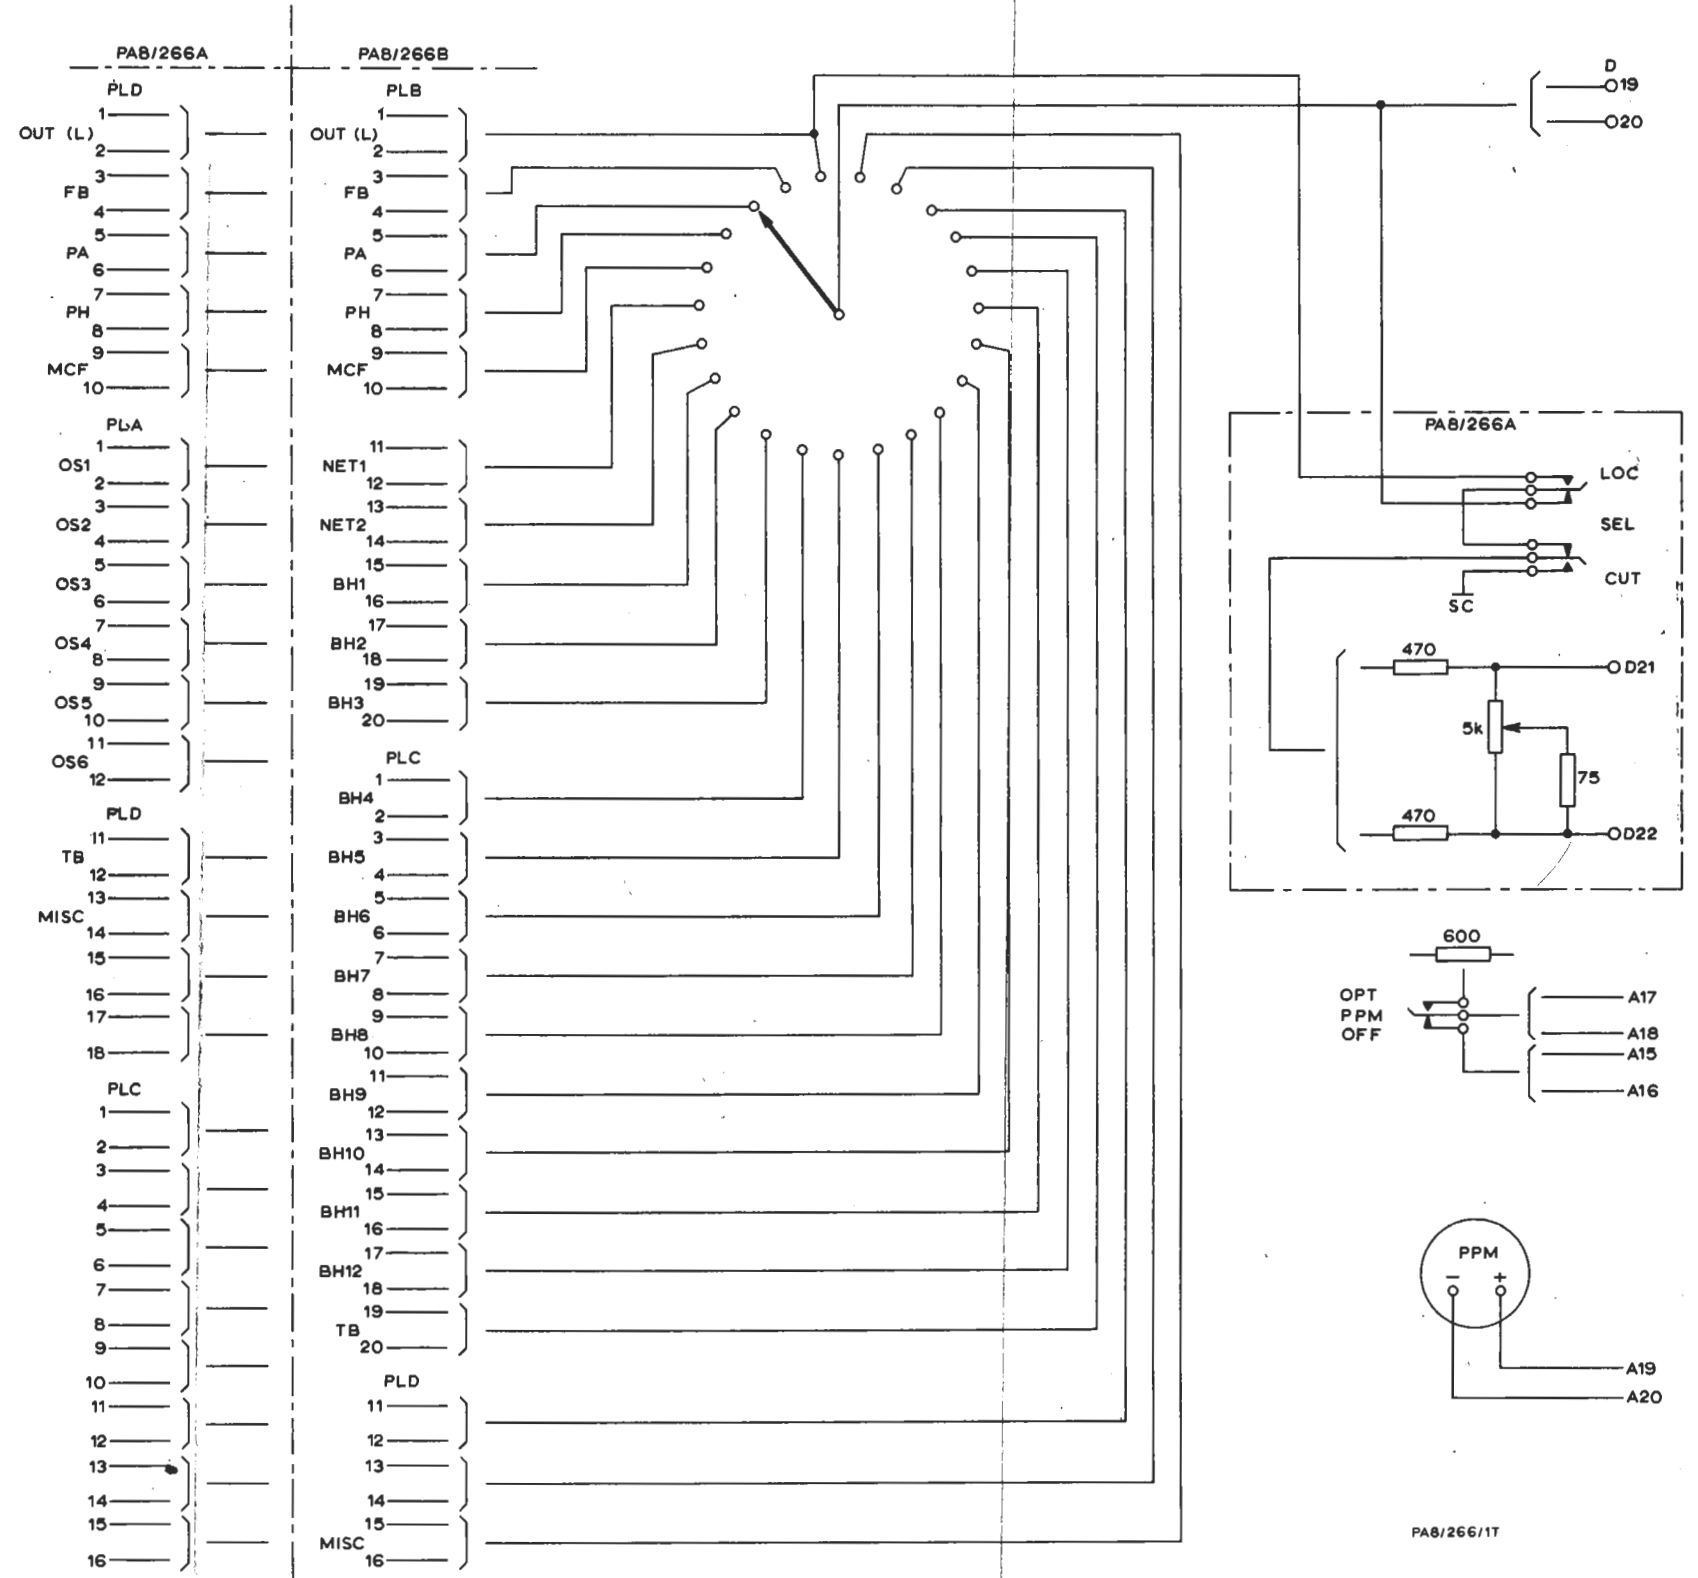

Fig.1.Circuit of PA8/266A & B
**General Description (Figs. 1 and 2)**